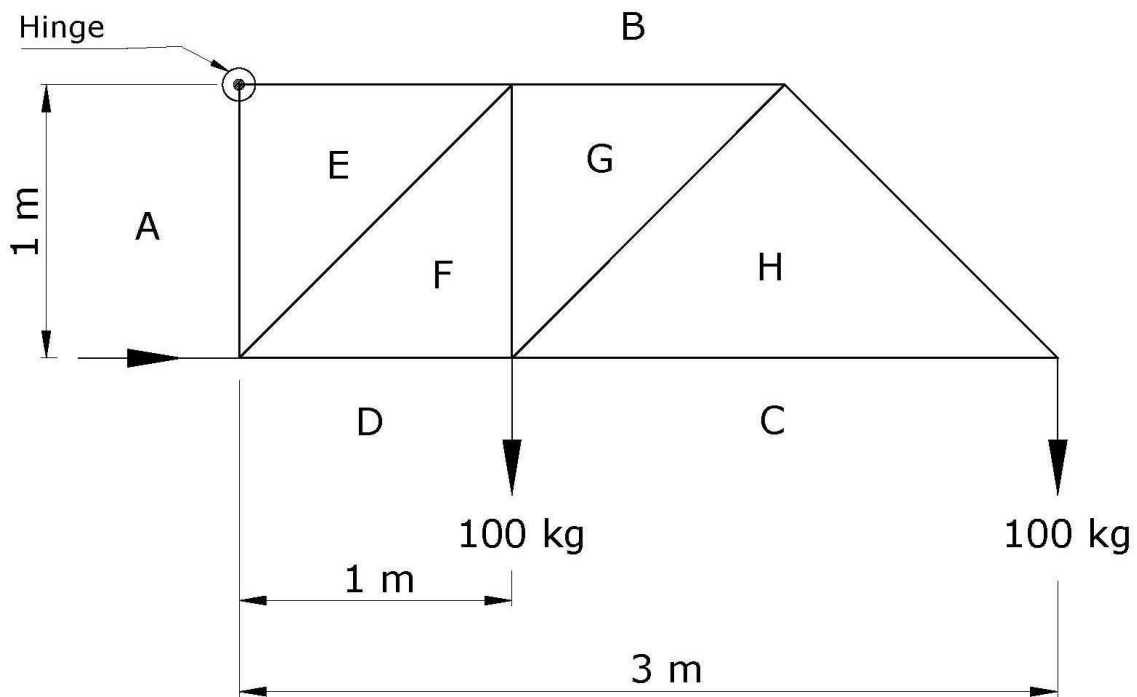

Figure 5
5. Figure 5 shows a framework consisting of nine jointed light rods hinged to a fixed point at the top left-hand corner of the frame. The framework is kept in position by a horizontal reaction at the left-hand bottom corner. The framework is loaded with 100 kg each at the point indicated in Figure 5.
- Copy the space diagram and use the scale indicated. (4)
- the stresses in the rods, stating whether they are in tension or in compression; (8)
- the magnitude, direction and angle with the H.P. of the reaction at the hinge; (4)
- the magnitude of the reaction at the left-hand bottom corner. (4)